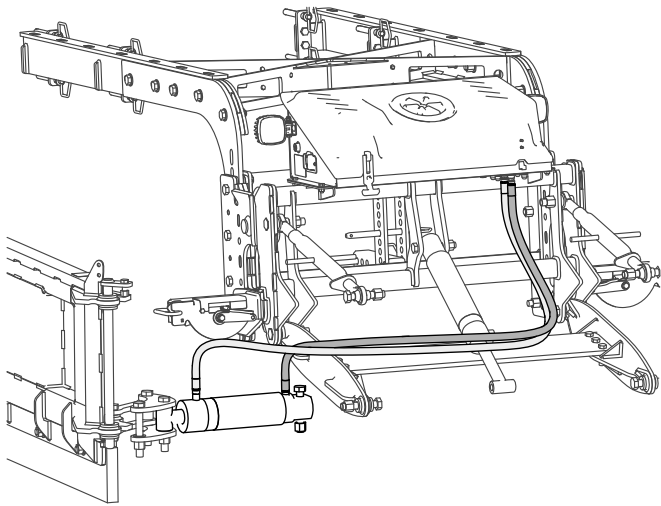
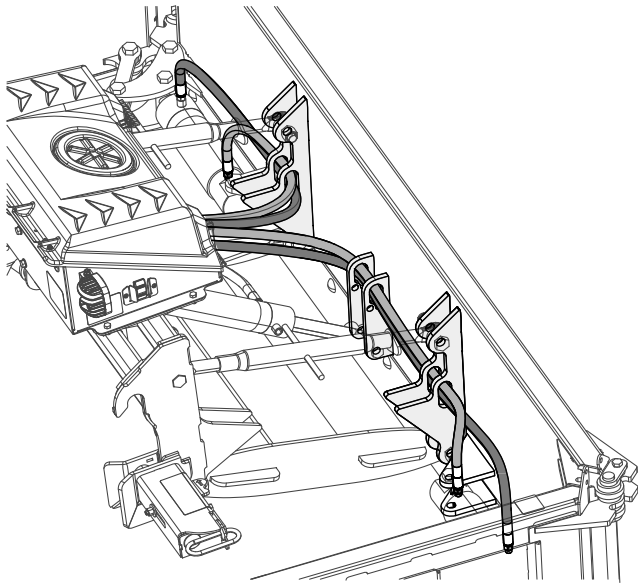

Figure 18
Figure 19
6. Route the white hose from the middle rear port to the inner fitting on the left hydraulic cylinder as shown in Figure 18.
**Note:** Route the hoses through the access hole on the center blade (Figure 19).
7. Connect the red hose from the middle front port to the outer fitting on the left hydraulic cylinder as shown in Figure 18 and Figure 19.